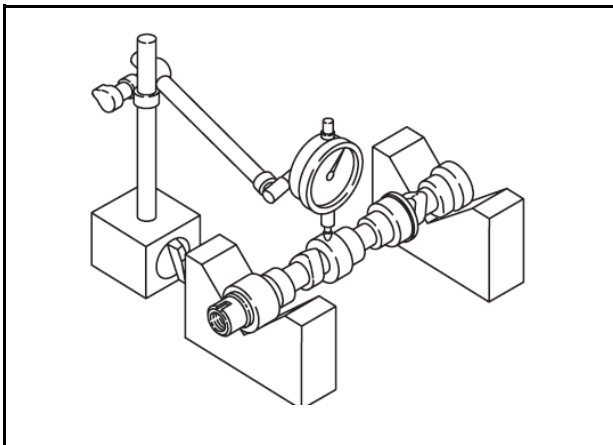

Fig.13-Checking Run-out
3. Measure camshaft run-out, Fig. 13.